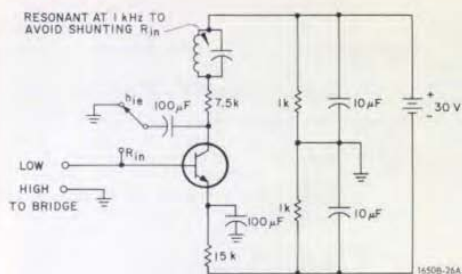

Figure 3a. The h_{ie} test jig.
a. Use the R_{ac} bridge and the h_{ie} test jig (Figure 3a). Turn the OSC LEVEL control way down to ensure a small-signal measurement of the forward-biased base-to-emitter junction. The diffusion capacitance of the junction is balanced using an external capacitance